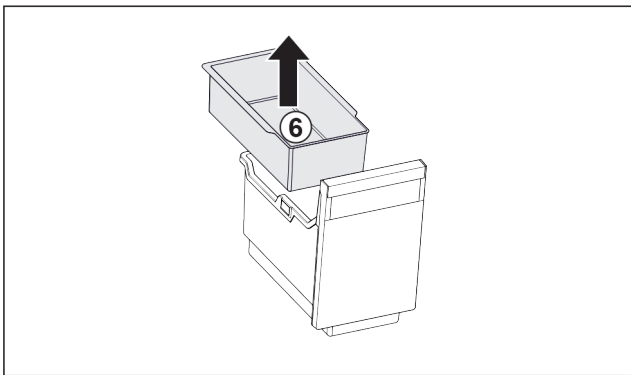

Fig. 31
- ▶ Remove the hang-on tray Fig. 31 (6).